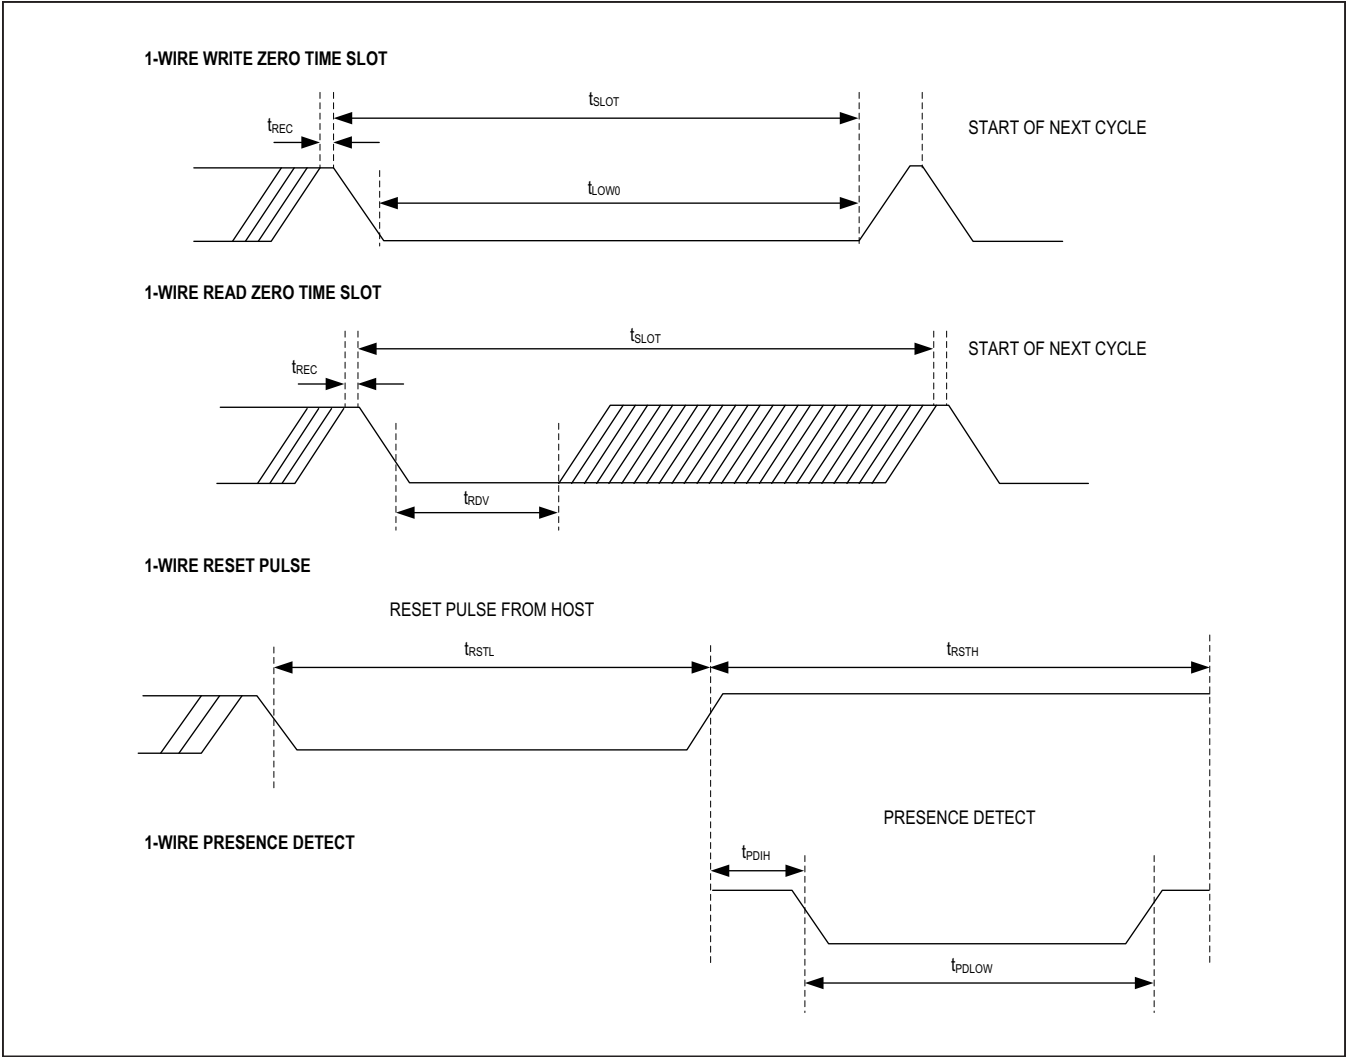

Figure 2. Timing Diagrams
**Note 12:** See the timing diagrams in Figure 2.